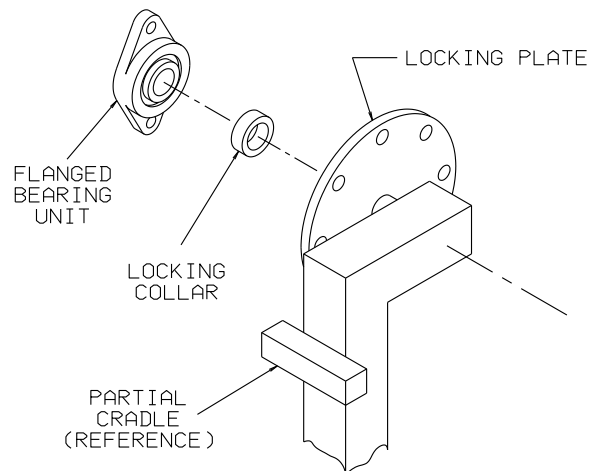

FIGURE 2
3. Slide the flanged bearing unit onto the cradle shaft near the locking plate, making sure that the locking collar is on first as shown in **Figure 2**. Do not hammer the bearing unit; the bearing should slide easily onto the cradle shaft. If it is necessary to apply force in mounting, check cradle and or bearing for nicks or burrs. Replace as necessary. Repeat on opposite cradle shaft with pillow block assembly.